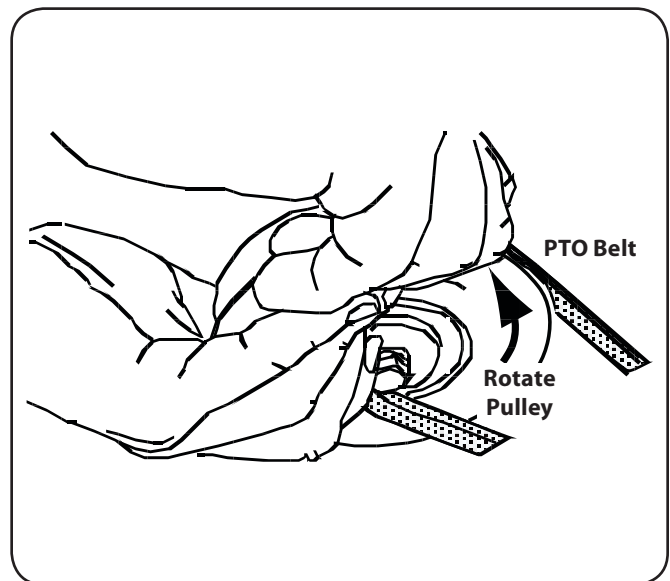

Figure 7-9
8. Pull the right side of the belt and place the narrow V side of the belt into the PTO pulley. See Fig. 7-9.
9. While holding the belt and pulley together, rotate the pulley to the left (See Fig. 7-9). Continue holding and rotating the pulley and belt until the belt is fully rolled into the PTO pulley.